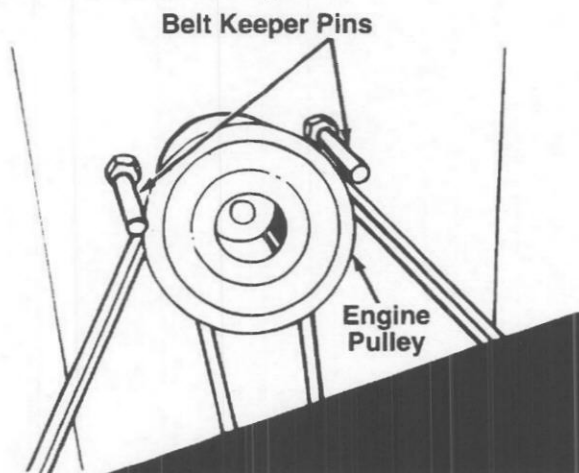

FIGURE 18.
**NOTE:** Figures 18 and 20 are shown with the unit tipped up for clarity. It is not necessary to tip the unit to remove the belts.
2. Remove the belt keeper pins from the engine pulley belt guard. See figure 18.
**NOTE:** When reassembling, make certain belt keeper pins are assembled in the same locations from which they were removed. See figure 18.